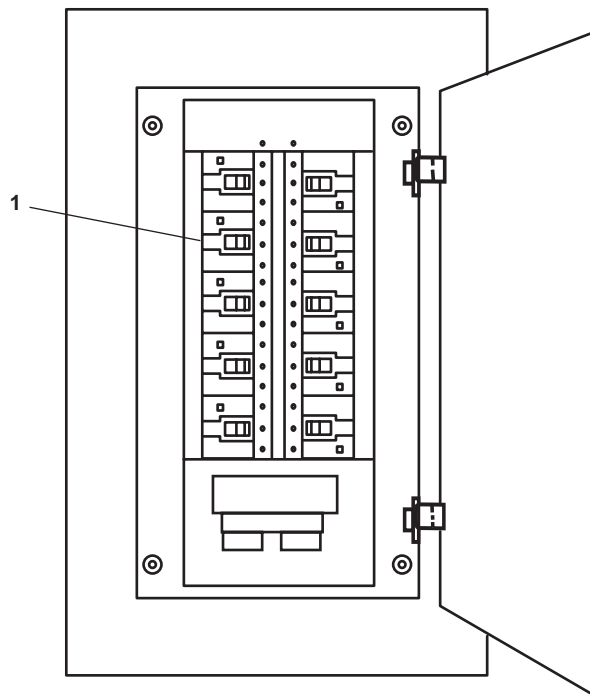

Figure 2. 440V Power Panel No. 4
2. Set to ON the MSD DISCHARGE PUMP AND BLOWER circuit breaker (figure 2, item 1) in 440V power panel No. 4.